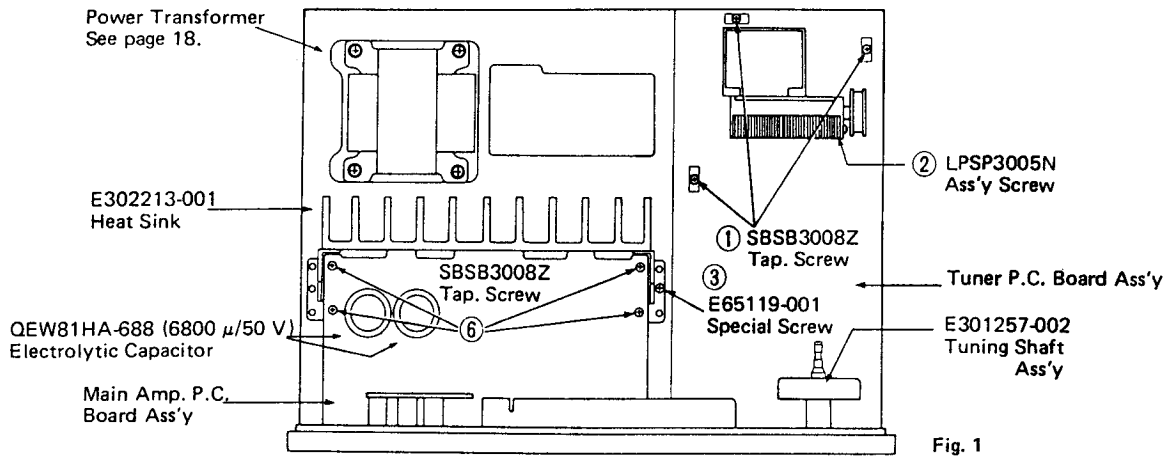

Fig. 1
Step 1: Remove 5 screws ①, ②, ③. (Fig. 1)
Step 5: Remove 4 screws ⑥ (Fig. 1) and heat-sink from Main Amp. P.C. Board Ass'y and then replace the transistors.